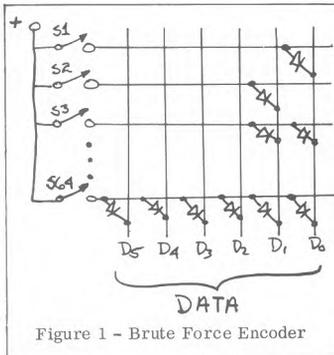

Figure 1 - Brute Force Encoder
There are lots of ways to do this, including the simple expedient shown in figure 1.
simultaneously, the diodes act like OR gates and the data that comes out may or may not (most probably not) represent those keys. If, for example, we were to press the first two keys down at the same time, data lines D0 and D1 would both go high. Exactly the same situation that we had defined in figure 1 as being an indication that key 3 was down: